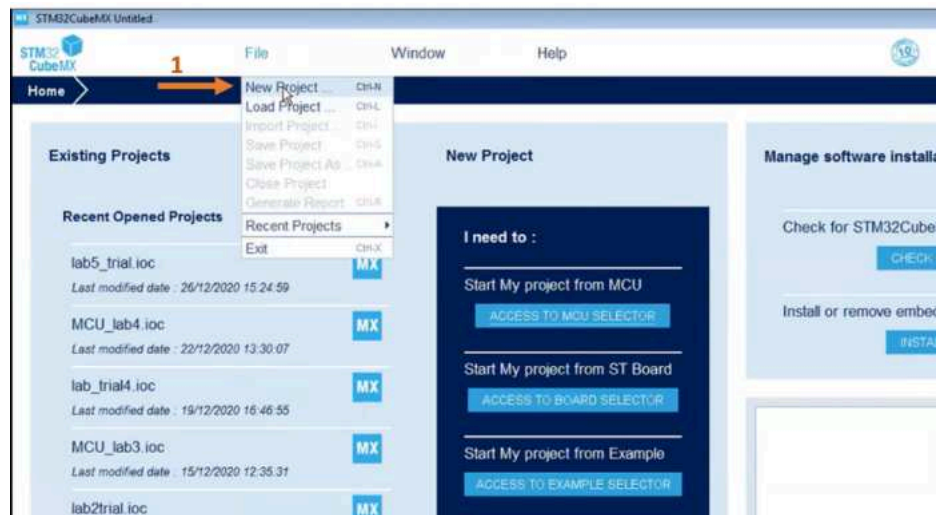
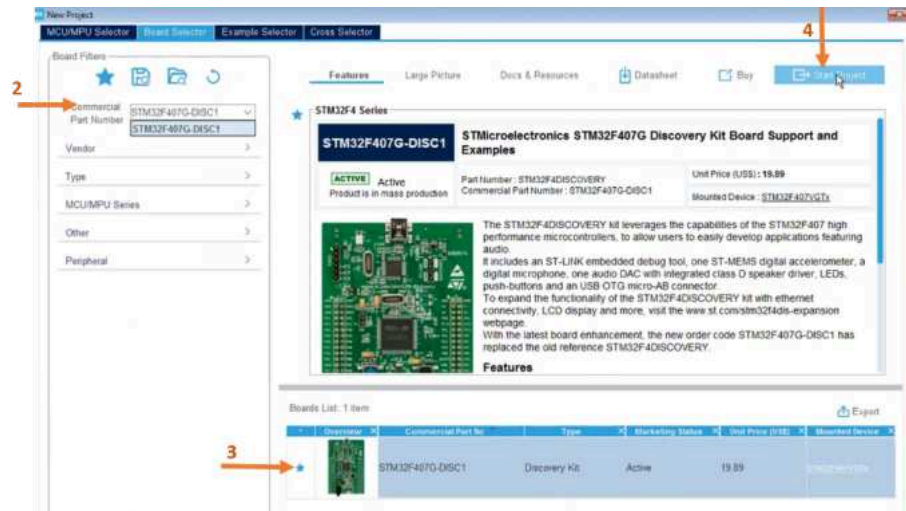
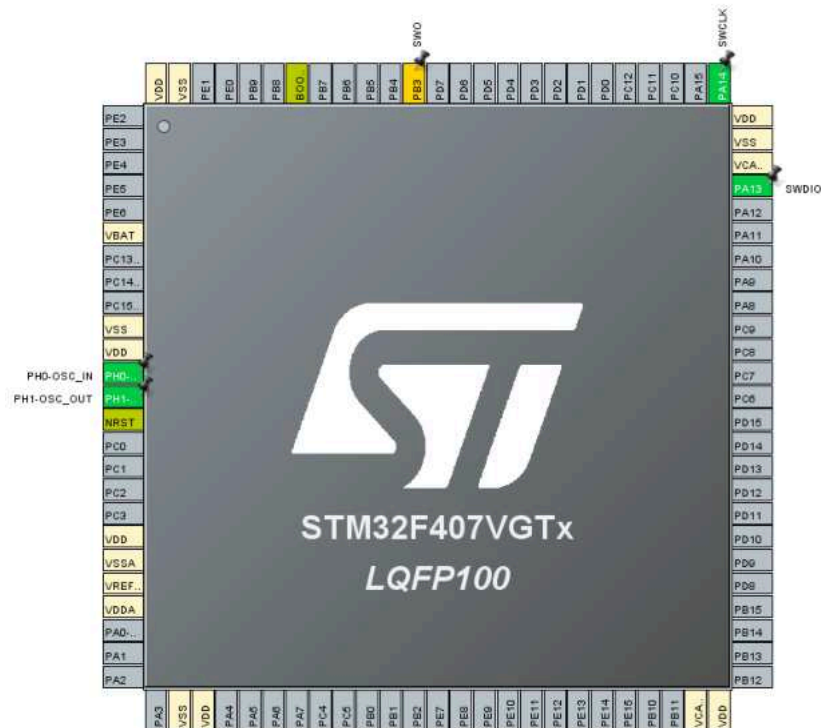

Figure 1
Figure 2
Figure 3
1. Create a new project in CubeMx (Figure 1). Select STM32F407VGTx, then STM32F407G-DISC1 and finally Start Project (Figure 2). First adjust the Pinout&Configuration settings. Close the unnecessary pins (Figure 3).